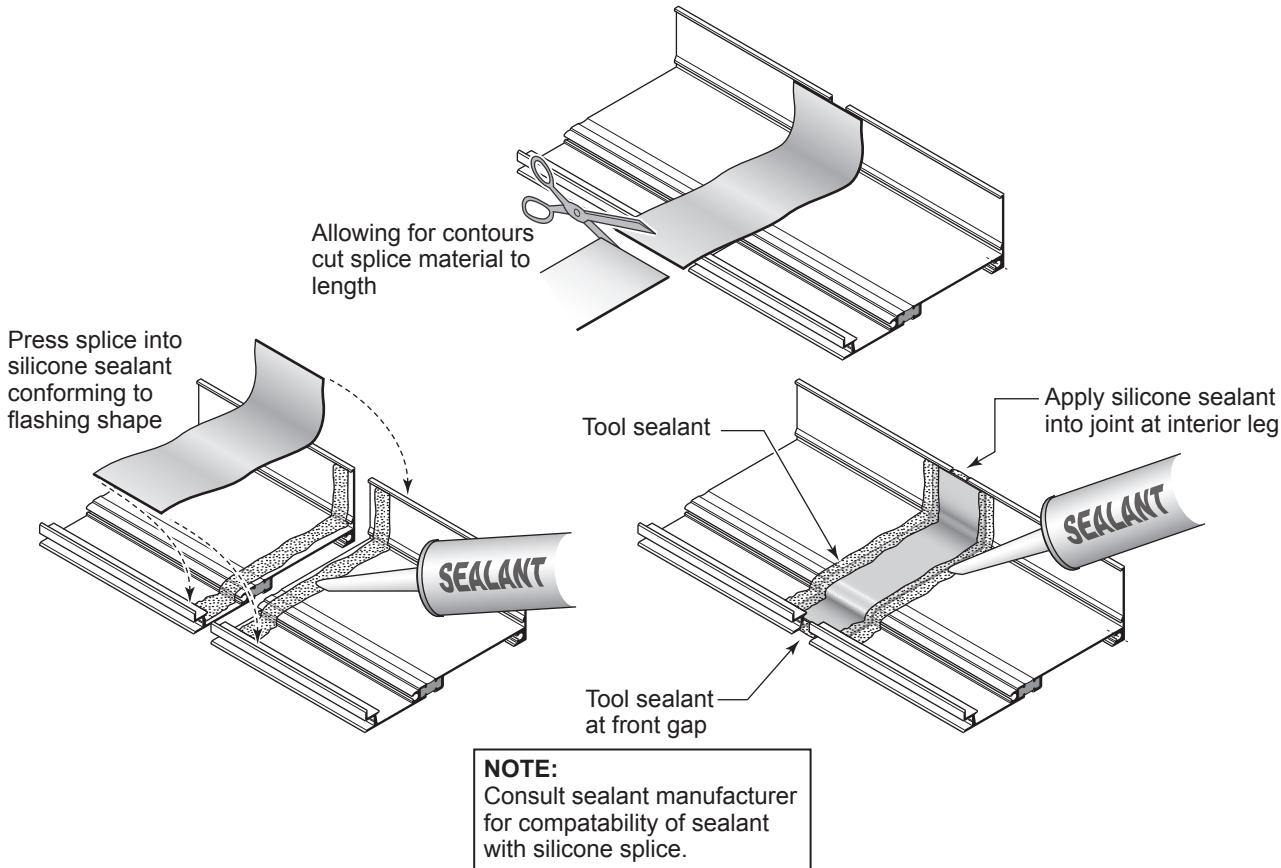

Fig. 40.1
Optional Silicone Splice - Fig. 40.1
- D. Clean surfaces where splice will be applied. Apply sealant as shown in Fig. 40.1.